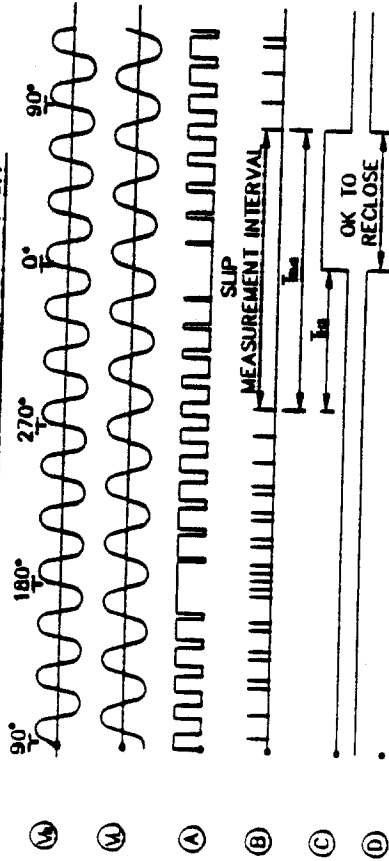

Figure 12 (226B7445 Sh 21): MLS Angle and High Set Slip Detector.
The angle and high set slip detectors are depicted in Figure 12. The bus and line voltages are brought into an anti-coincidence circuit which produces a positive output only when the instantaneous voltages are of opposite polarity, either the bus positive and line negative, or vice versa. When the instantaneous voltages are both positive or both negative, there is no output from the anti-coincidence circuit. Thus, the output of the anti-coincidence circuit (waveform A) can be considered as a pulse train in which the width of the positive pulses (or blocks) is equal to the angular separation  $\theta$  (phase shift) between the bus and line voltages.
Consider the example of the bus and line voltages being at exactly the same frequency (no slip) and having an angular separation of  $\theta$  between them which exceeds the setting  $\theta$ . The waveforms will be as illustrated in Figure 12, item 1. The dots at the left of each waveform indicate the reference point.
Now consider the example of a frequency difference between the voltages which is less than the high set slip cut-off, FHS. The waveforms will be as illustrated in Fig. 12, item 2. Eleven cycles of VL are shown in the same interval as 12 cycles of VB ( $90^\circ$  to  $90^\circ$ ). This is one complete slip cycle and the angular labels above the VB wave and around the circle are slip degrees. If the VB sine wave is taken to represent 60 hertz, the VL sine wave has a frequency of  $11/12 \times 60 = 55$  hertz and the slip rate is  $60 - 55 = 5$  hertz. Although this exceeds the maximum acceptable setting of the circuit (2.5 hertz), it is shown for the sake of discussion to be less than the high set slip setting. A slip of 5 hertz was used only so that the diagram might be clear and not be unreasonably long.